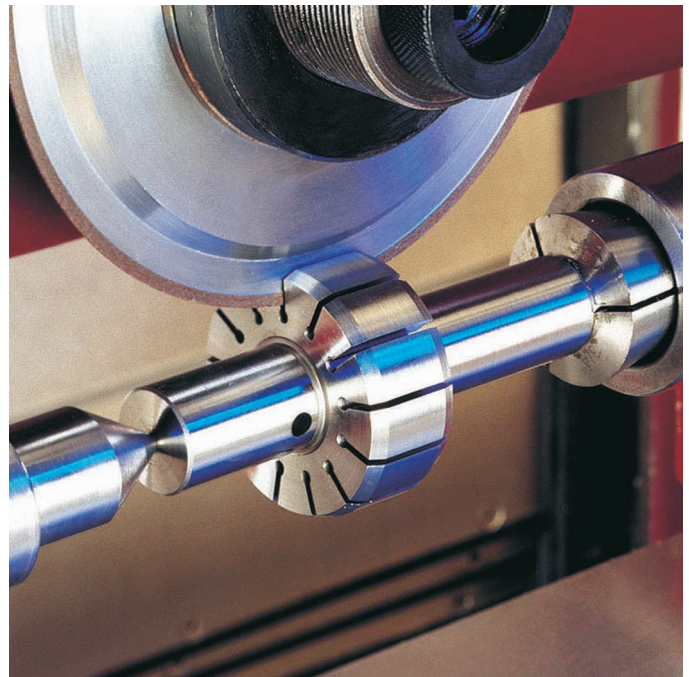

Figure 13-14 A diamond wheel is ideal for finishing these slots.
Diamond Abrasive (D) Natural (MD) Manufactured (SD) Synthetic (Fig. 13-14)
We've previously discussed the first two, so that leaves the metallic nickel-copper-based alloys used to embed grains of diamond, CBN, or other expensive crystal grains onto tool steel disks, as shown on the diamond wheel in Fig. 13-14.